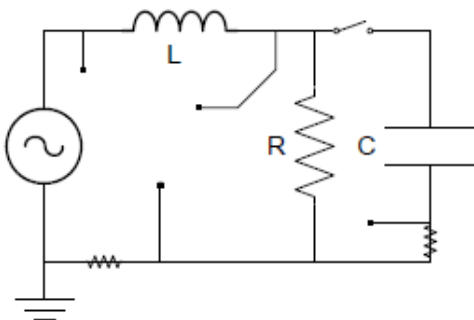

Figure. 4. The experimental circuit to observe compensation. $R= 100 \Omega$, $L=100 \text{ mH}$, $C=10 \mu\text{F}$.
6. (a) Construct the circuit of Figure 4 with the capacitor disconnected. Maintain the source at the settings of the previous procedure. Measure the phasors of the supply voltage and current and the phasor of the voltage across the resistor. Use the voltage across the resistor as reference.